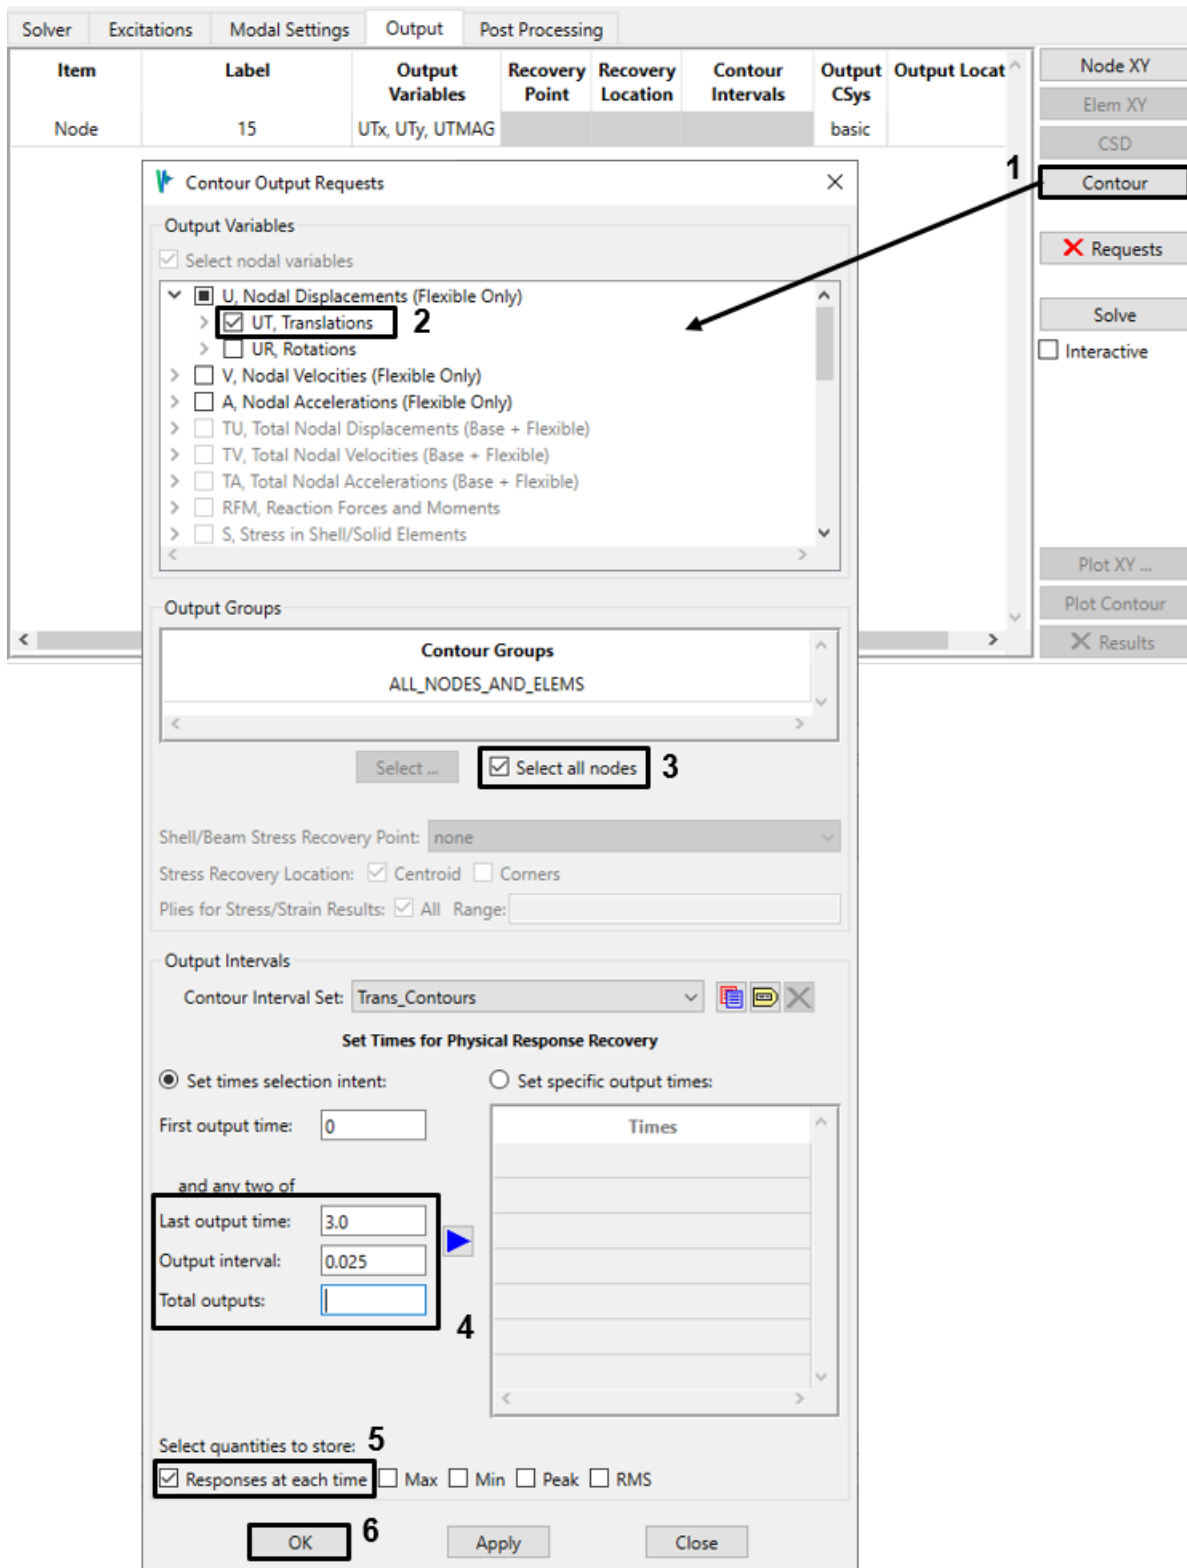
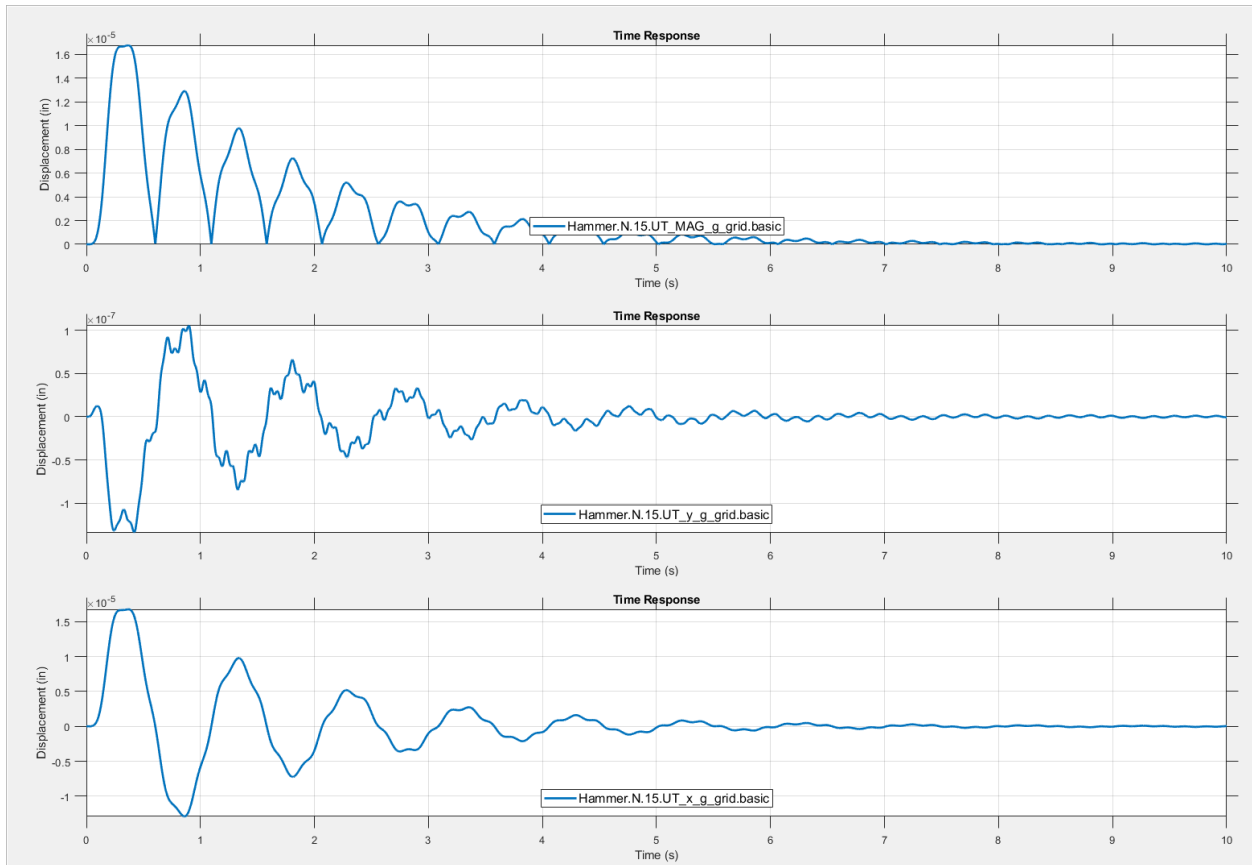

Figure 4-120. Request displacement (*UT*) contours for the first 3 seconds of the event.
Figure 4-121. Transient displacements for node 15.
8. In order to create an animation of the structure in motion, create a contour request for displacement (UT) at all nodes (Figure 4-120). Enter 0.0 for the *First output time* and 3.0 for the *Last output time* to create contours from 0.0 to 3.0 seconds. We have selected 3 seconds as the end time because the structure's response will decay to about 30% of its maximum by then (see Figure 4-121). Set the *Output interval* to 0.025 (seconds) and leave *Total outputs* blank. This will produce 121 time frames for
9. Solve the event. Click the **Plot XY** button to view the requested nodal displacement histories. These are shown in Figure 4-121 using the *stacked* plot mode. Note the different orders of magnitude on the Y-axis labels.